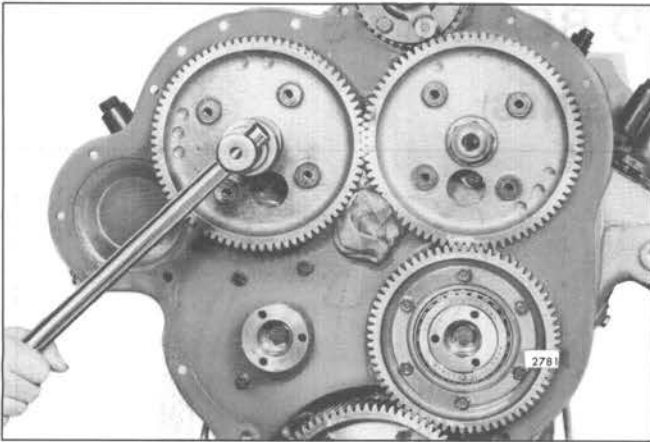

Fig. 2 - Loosening Camshaft Gear Retaining Nut
10. Wedge a clean rag between the gears (Fig. 2) and remove the gear retaining nut from both ends of each camshaft. On left hand rotation engines remove the lock bolt and washer from the right bank camshaft.